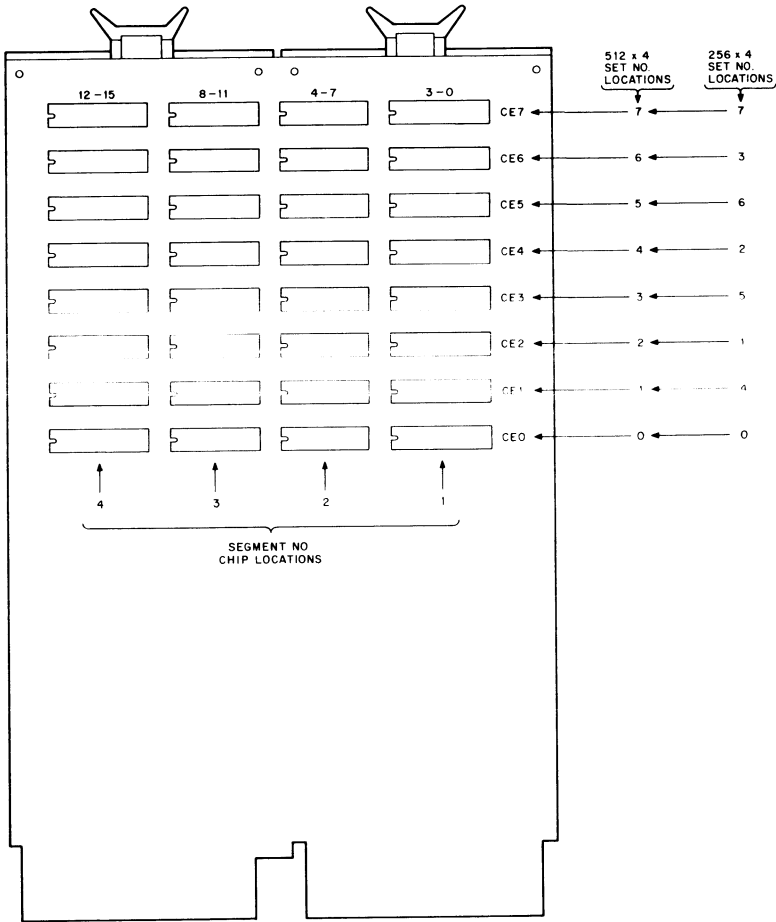

Figure 18-3 PROM Set and Segment Positions on the MRV11-AA Module
**Installing PROMs** — After the PROMs are properly programmed, loaded, and verified, they can be installed on the properly configured MRV11-AA module as illustrated in Figure 18-3. Observe that PROMs are installed in sets of four—one for each segment. Segment and set numbers correspond to those indicated in the QJV11 listing output.